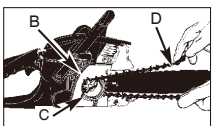

Fig. 4B
2. Slip the chain around the sprocket (B) behind the clutch (C). Make sure the links fit between the sprocket teeth (Fig. 4B).
3. Guide the drive links into the groove (D) and around the end of the bar (Fig. 4B).